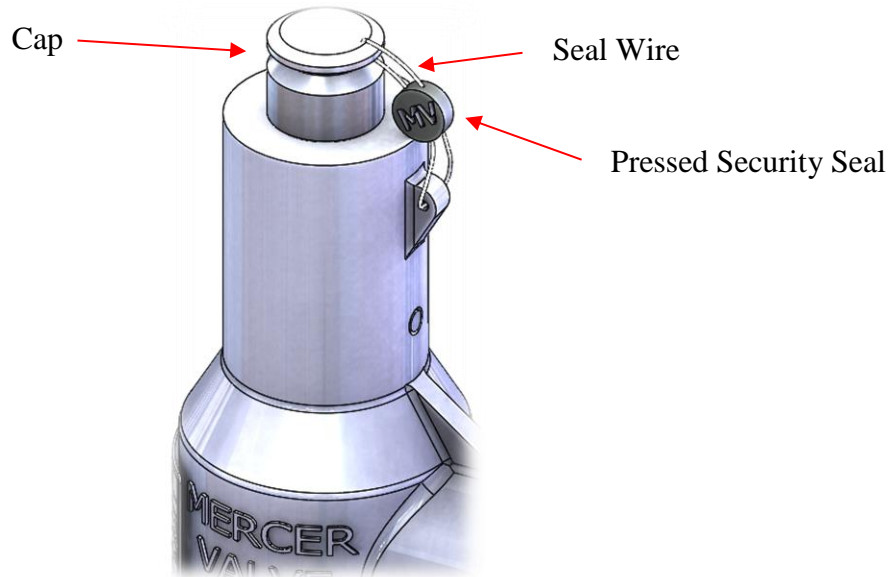

Figure 3: Typical Cap and Seal Wire
- **Cap and Seal Wire** – The valve cap and seal wire should be checked first on all inspections. These parts prevent adjustment tampering. On the seal wire there is a pressed security seal that has an impression on it to indicate the certified company that last adjusted the set point of the valve. When this seal wire is cut or removed, it indicates that someone may have adjusted the set point or altered the valve. This voids any warranty the valve had. See Figure 3.